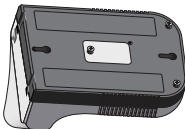

Fig. 14
- Remove the battery compartment cover. (Figure 14)